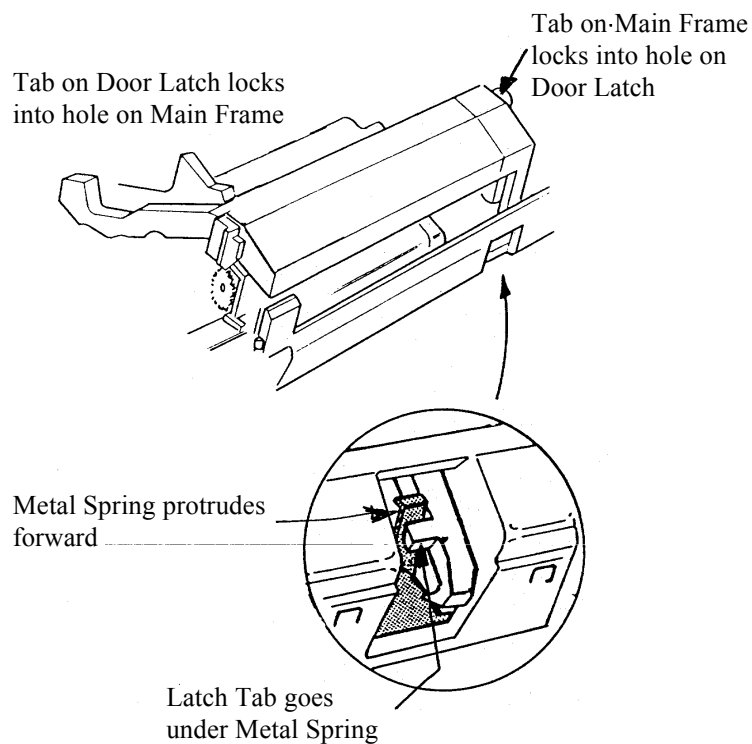

Figure 4-14d Installing the Door Latch
- b. Orient the Door Latch over the Main Frame and Gear Train and install it by snapping the tabs into place to lock the latch to the frame. (Figure 4-14d). Be sure the lower tab of the latch is under the metal spring (as seen through the opening in the middle of the main frame - Figure 4-14d).